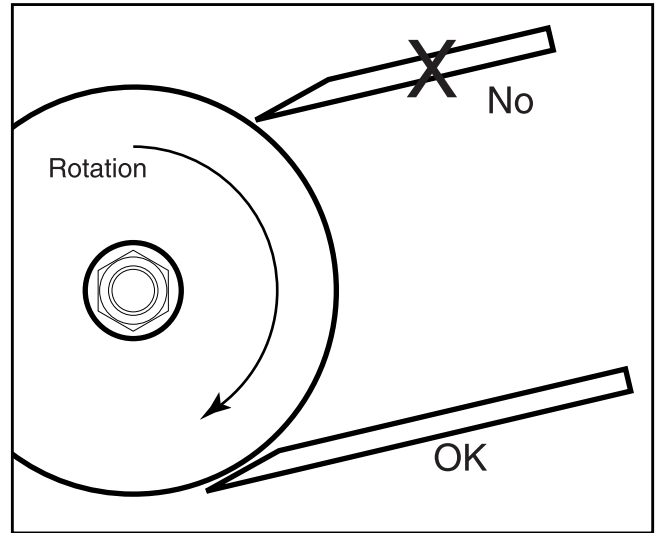

Figure 21. Buffing on the bottom of the wheel.
5. If facing the front of the machine, buffing and polishing should be done on the bottom of the wheel. **See Figure 21.**